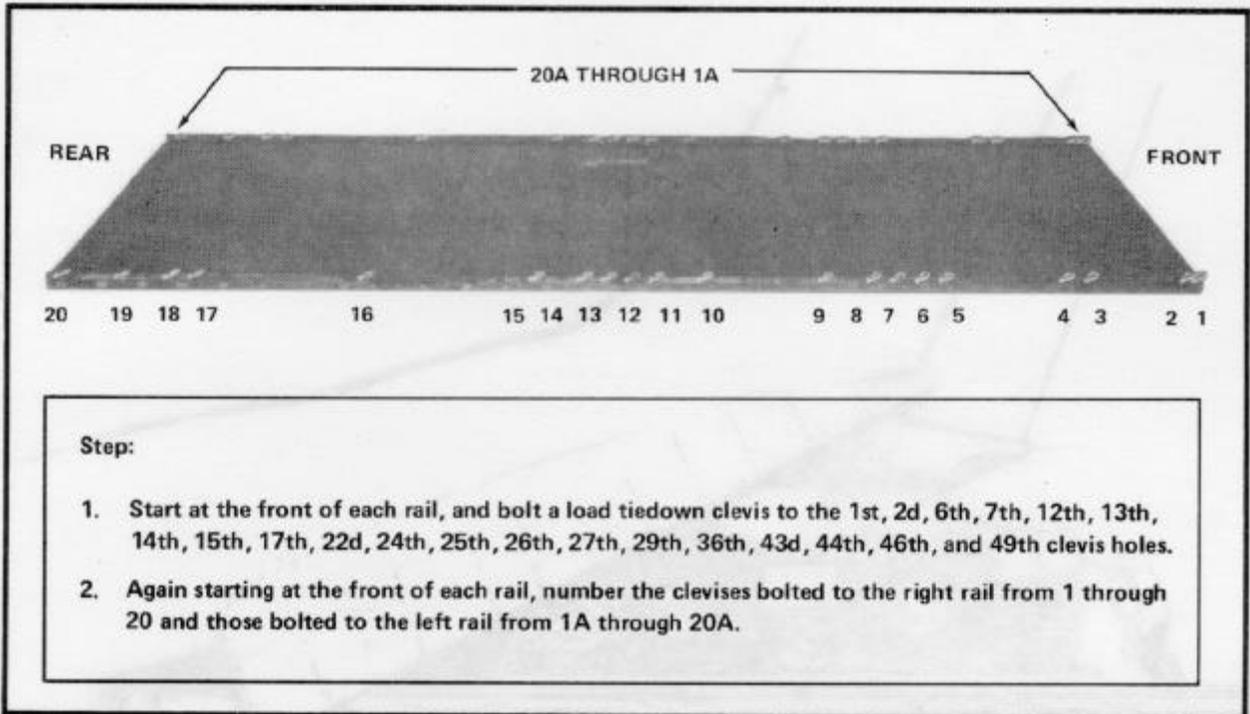

Figure 2-1. Platform prepared.
Inspect, or assemble and inspect, the type II modular platform according to TM 10-1670-208-20&P/TO 13C3-4-12 and as shown in figure 2-1.
Prepare the platform as shown in figure 2-1 and as follows:
a. Prepare the platform as shown in figure 2-1 and as follows:
b. Prepare the platform as shown in figure 2-1 and as follows:
c. Prepare the platform as shown in figure 2-1 and as follows: